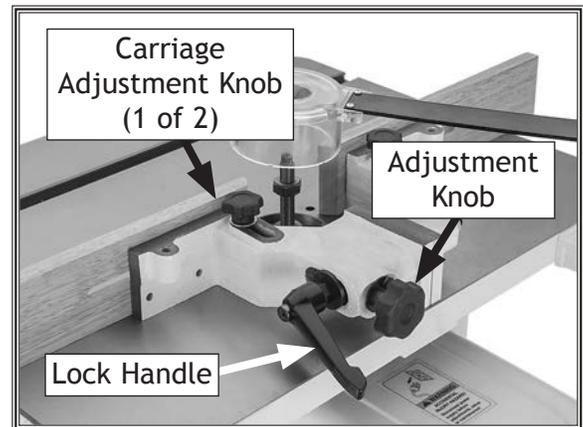

Figure 32. Fence controls.
1. Loosen lock handle (see Figure 32).
2. Turn adjustment knob (see Figure 32) located on back of fence mount and adjust infeed fence until workpiece contacts cutter at desired location.
1. Loosen lock handle (see **Figure 32**) on side of fence mount.